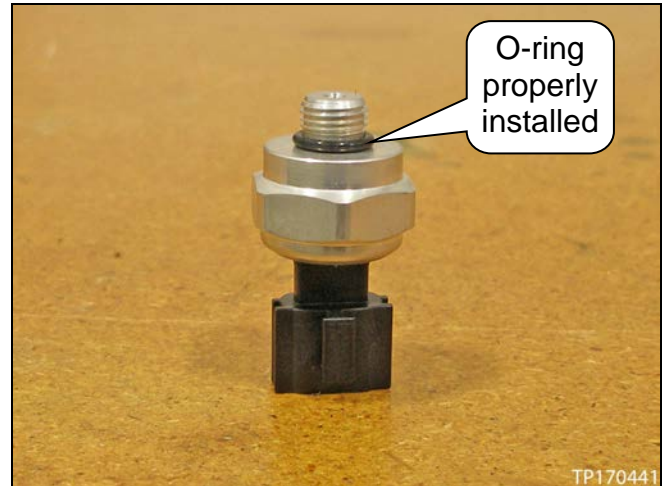

Figure 11
**CAUTION:** Verify the O-ring is properly fitted to the PSP sensor (see Figure 11).